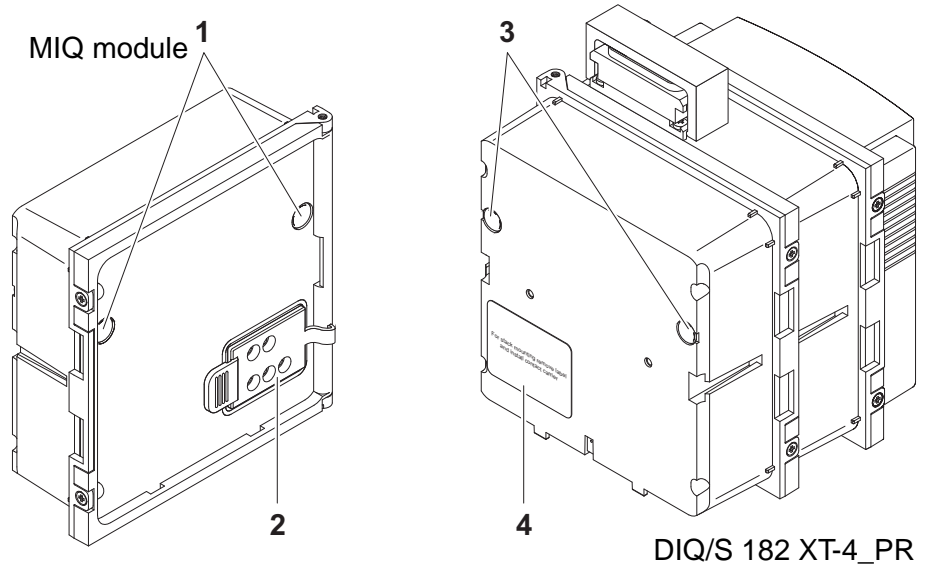

Fig. 3-2 Preparing components for stack mounting (variant 1)
1	Remove the covers from the drilled mounting holes (pos. 1 and 3 in Fig. 3-2).